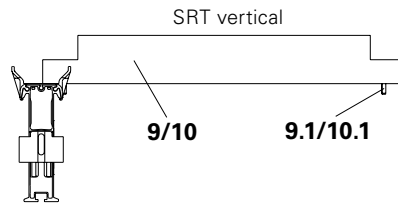
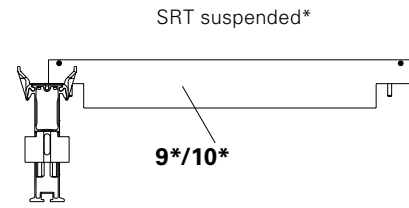

Fig. A5.01
Fig. A5.02
Install vertically (Fig. A5.01) or suspended (Fig. A5.02).
- to the Main Beam SLT in a longitudinal direction. (Fig. A5.01 + A5.02)